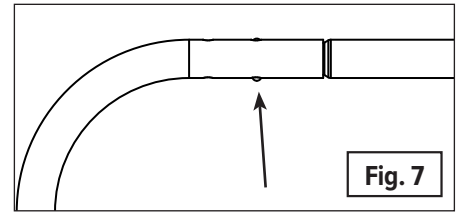

Fig. 7
2. **(Fig. 7)** Make sure the snap buttons on the straight section align with the holes on the bent leg. You should hear a “click” sound when the two pieces are connected properly. Repeat with the other bent leg on the other end.